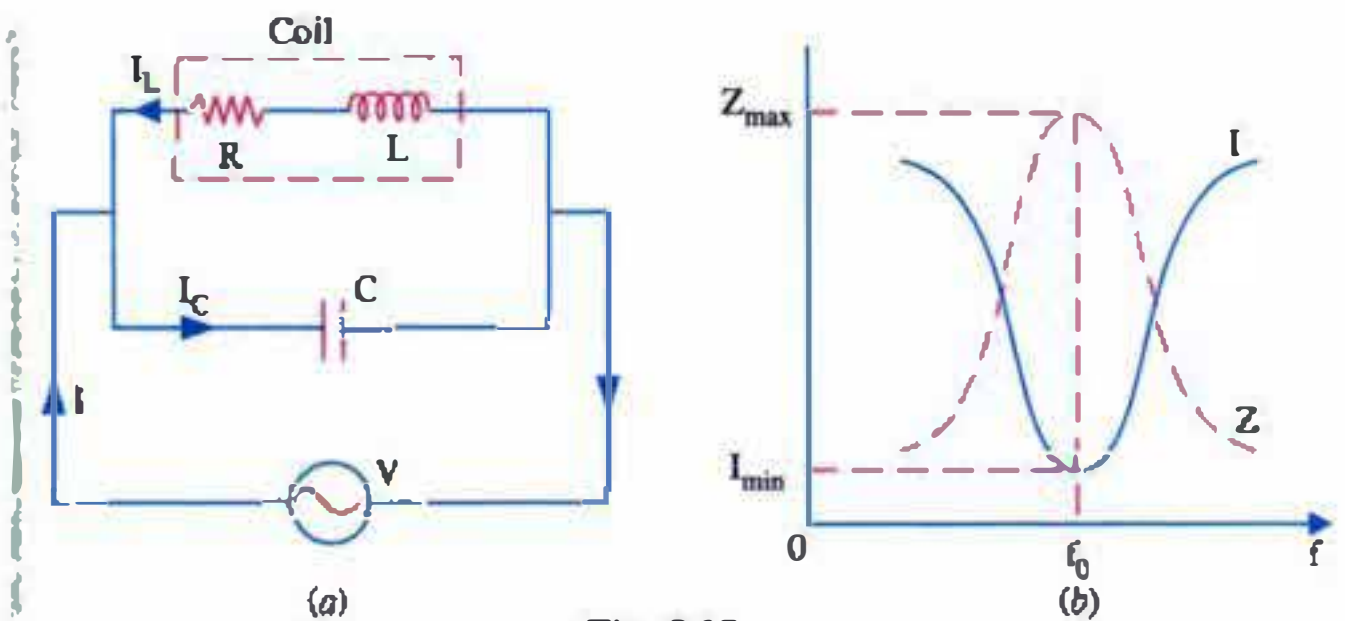

Fig. 9.13
In Fig. 9.13 (a) is shown a circuit consisting of a capacitor in parallel with a coil of negligible small resistance. When fed from an a.c. voltage source, the capacitor draws a leading current whereas
As seen from Fig. 9.13 (b), current is minimum at f_0 but increases for off-resonance frequencies due to decrease in the circuit impedance.
* The two branch currents are shown flowing in opposite directions in Fig. 9.13 (a). It is so because when coil draws in the current, the capacitor discharges out at the same time and vice-versa.